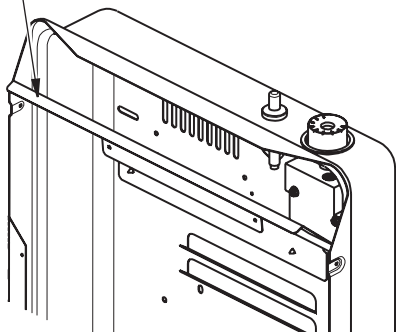

Figure 3: Installation of New Upper Baffle
2. Remove upper baffle (see Figure 3) by removing 2 screws for medium cabinet and 3 screws for large cabinet from the back panel (see Figure 2).